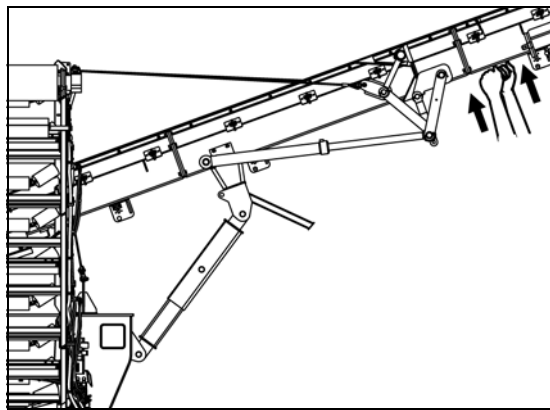

Figure 8.1 Check the conveyor belt tension
- Check the conveyor belt tension (Figure 8.1) and centering. Adjust if necessary.